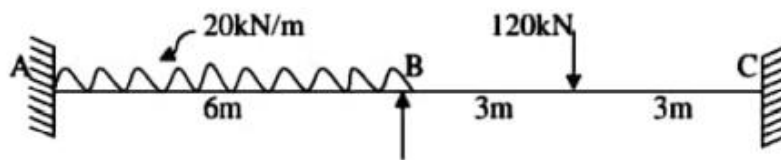

Fig.5
8. Analyse the continuous beam shown in Fig.5. by stiffness method.